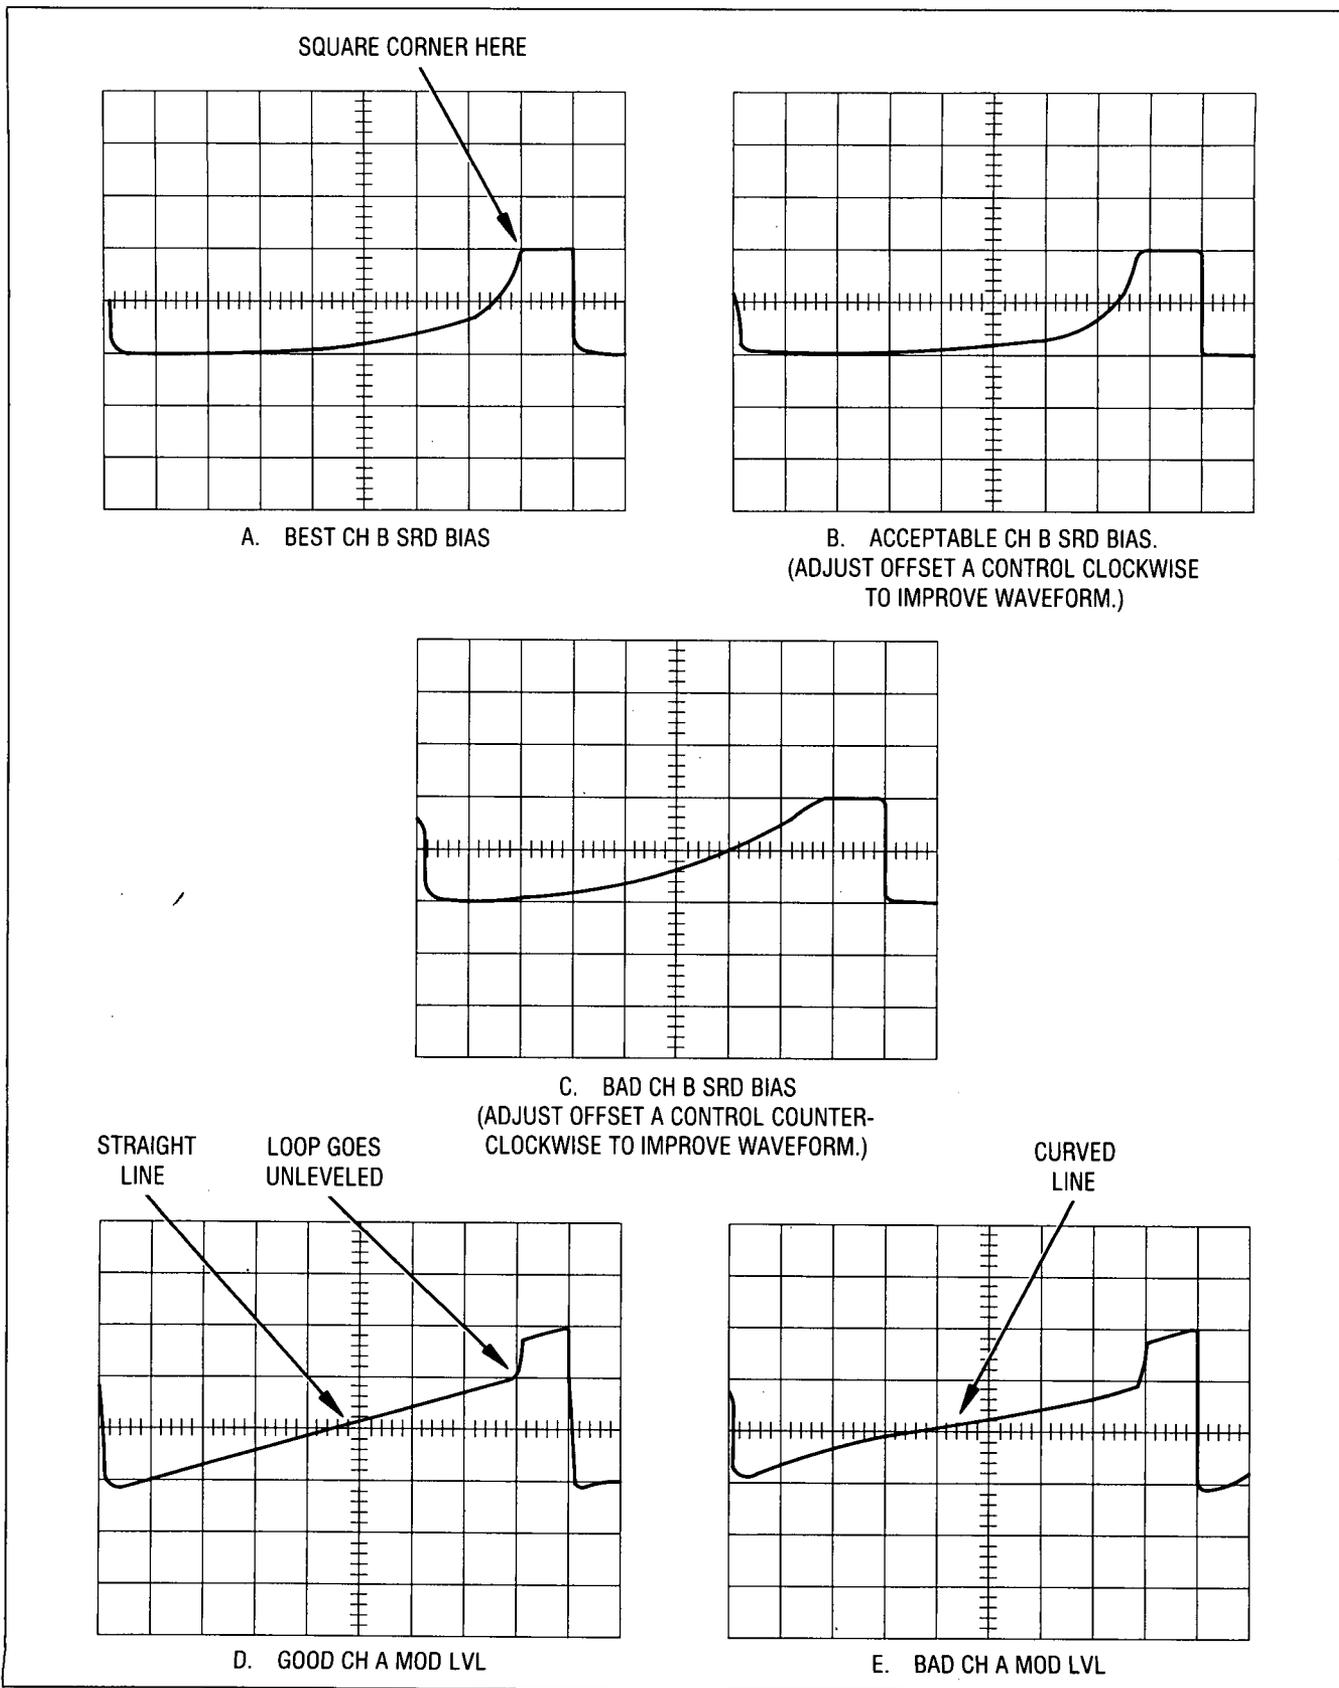

Figure 5-55. Typical MOD LVL and SRD BIAS Waveforms
The oscilloscope display should look similar to Figure 5-55.
9. Adjust A22R50 (C), so that the MOD LVL waveform is straight and at its most negative voltage. When the A22R50 is adjusted properly, the MOD LVL waveform is a straight ramp indicating constant SYTM conversion efficiency over its entire input range. Also, the ramp is at its most negative value indicating maximum conversion efficiency.
11. Using the DUT's **UP ARROW** and **DOWN ARROW** step keys, step through band 2 from 7 to 13.4 GHz and check for an optimum SRD bias trace (Figure 5-55, Waveform A, B, and C) at each step. If not optimum, adjust A22R50 (C) and A22R55 (MIN). If an adjustment is made, step through the entire band again, making sure every step is optimized or acceptable if all the steps cannot be optimized.